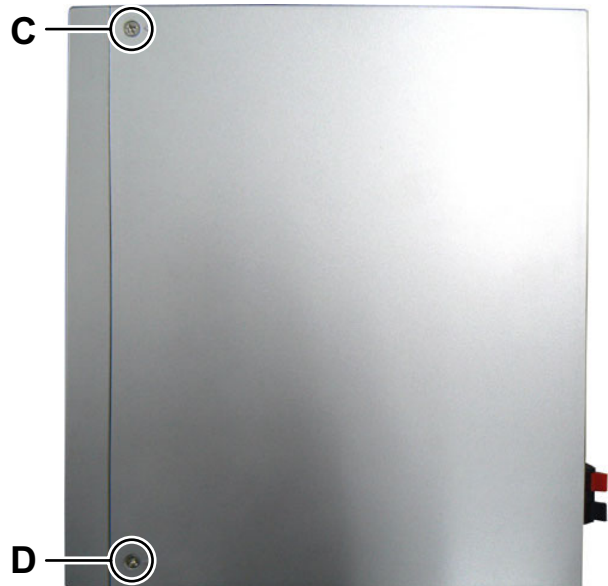

Fig.3
- (3) Remove the two screws **C** and two screws **D** attaching both side of the Top cover. (See Fig.3)